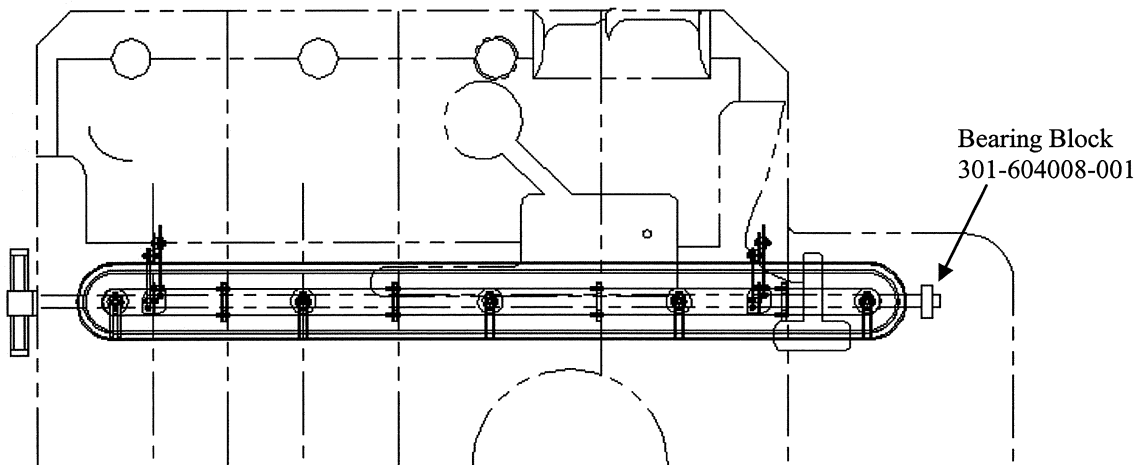

Figure 1
5. Place bearing block 301-604008-001 on the forward actuator torque tube per Figure 1.